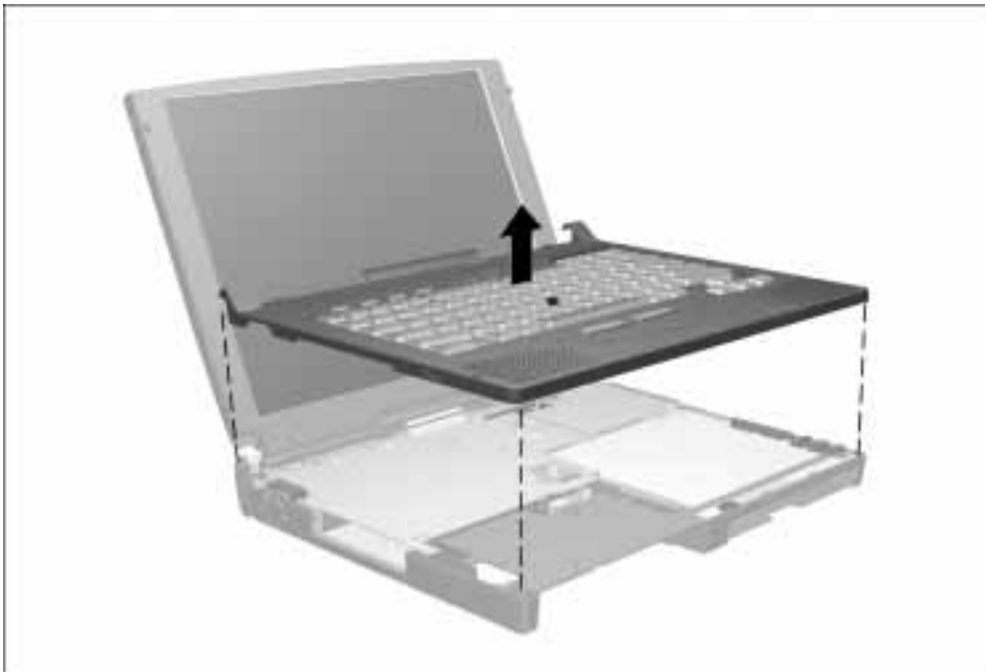

Figure 5-20. *Removing the Keyboard/CPU Cover Assembly*
7. Lift the keyboard/CPU cover assembly straight up and away from the computer (Figure 5-20).